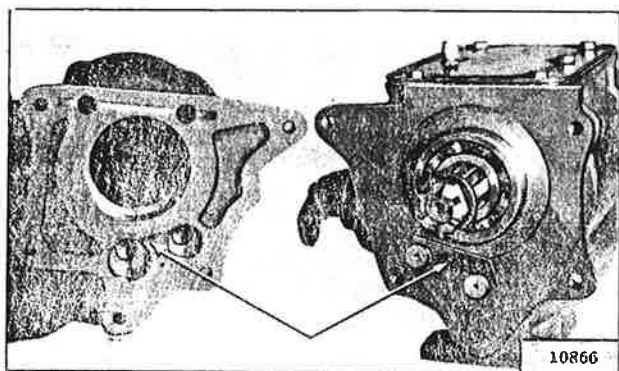

FIG. 186—SHAFT LOCK PLATE
- e.** Tap lightly on the front end of the countershaft to loosen the lock plate. Remove the lock plate from slots cut in the rear ends of the countershaft and reverse idler shaft. Refer to Fig. 186.
k. Attach the transfer case to the transmission before the unit is installed in the vehicle. When doing this, use care that the countershaft and reverse idler shaft lock plate shown in Fig. 186 is correctly positioned in the recess in the transfer case housing. Three $1\frac{1}{8}$ " long [29 mm.] screws and two 1" long [25 mm.] screws are used to attach the transfer case housing to the transmission housing. Install the 1" long screws in the lower left and lower right mounting holes.